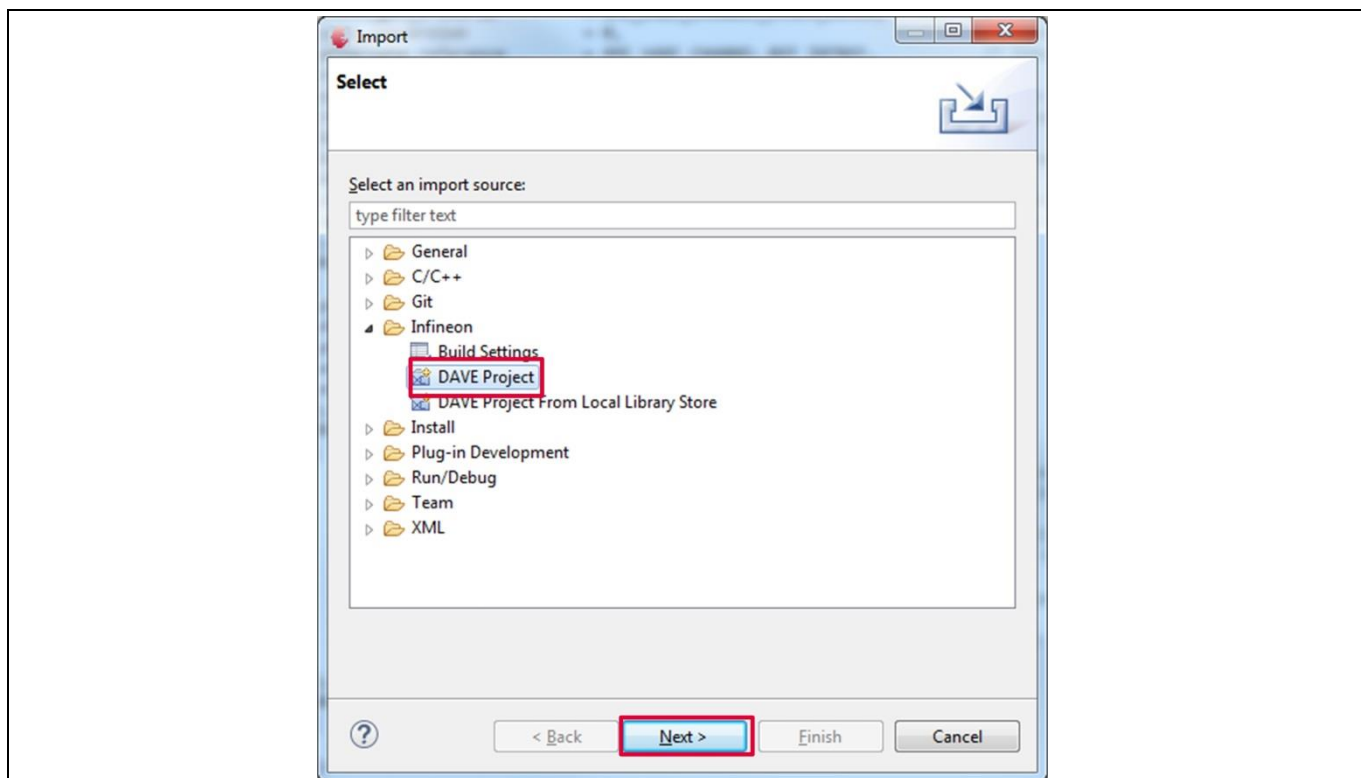

Figure 16 Select DAVE™ project
2. Select Infineon -> DAVE™ project (Figure 16). Click “Next”.